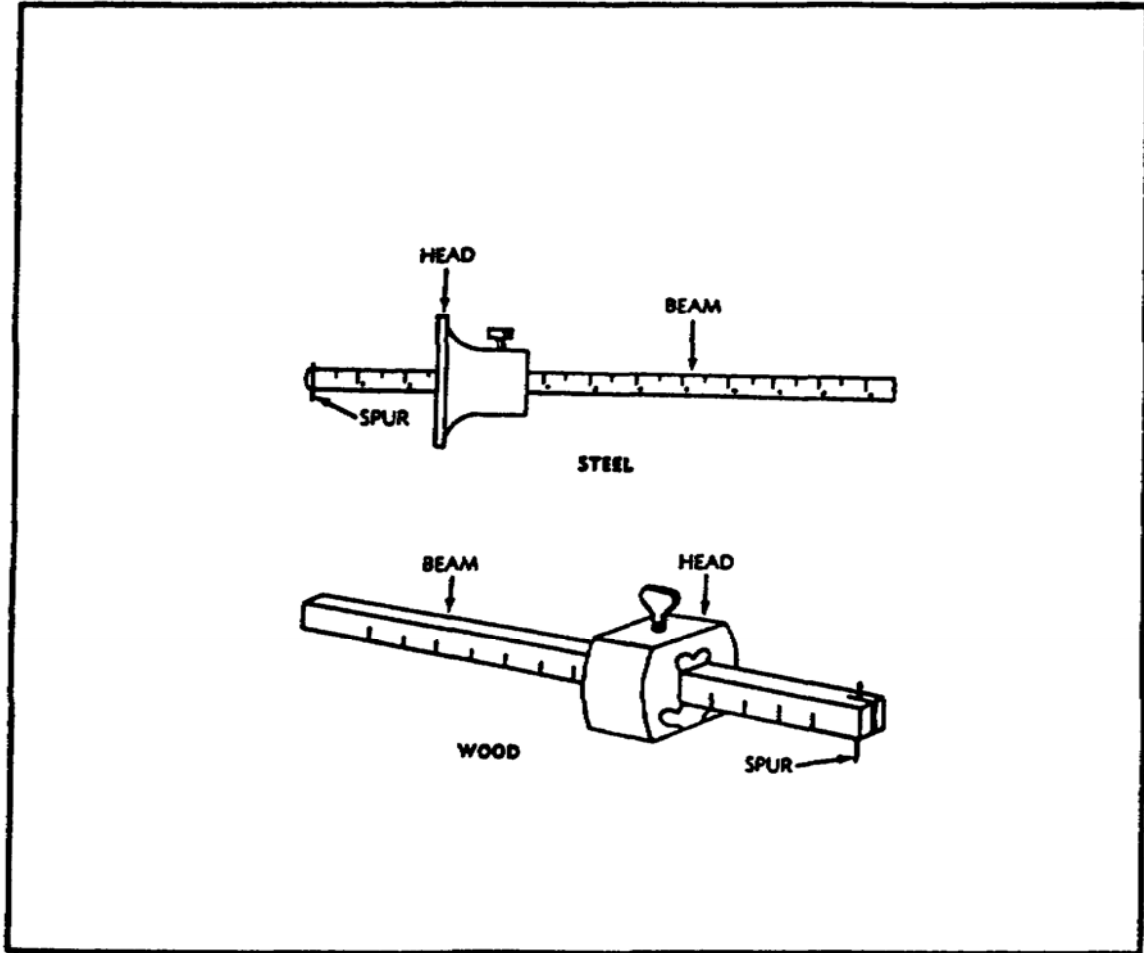

FIGURE 204. MARKING GAGES.
i. *Types of Marking Gages.* Marking gages (figure 204) are made of wood or steel. They consist of a graduated beam about 8 inches long, on which a head slides. The head can be fastened at any point on the beam by means of a thumbscrew. The thumbscrew presses a brass shoe tightly against the beam and locks it firmly in position. A steel pin or spur marks the wood. The spur projects from the beam about 1/16 inch.